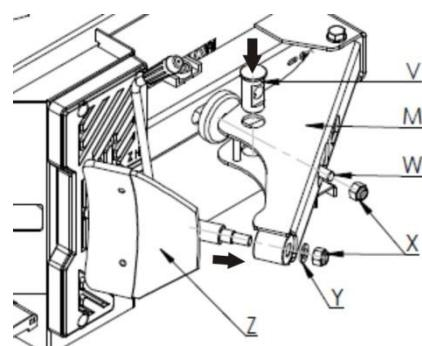

Fig. 10
- Pull out the breaker arm all the way, now return the arm to its original position slowly and put the piston rod (W, fig.10) through the rod casing hole (V, fig.10), now tighten the bolt (X, fig.10) using an air drill .
- Install the shovel (Z, fig.10) and tighten it firmly using washer (Y, fig.10) and nut (X, fig.10).